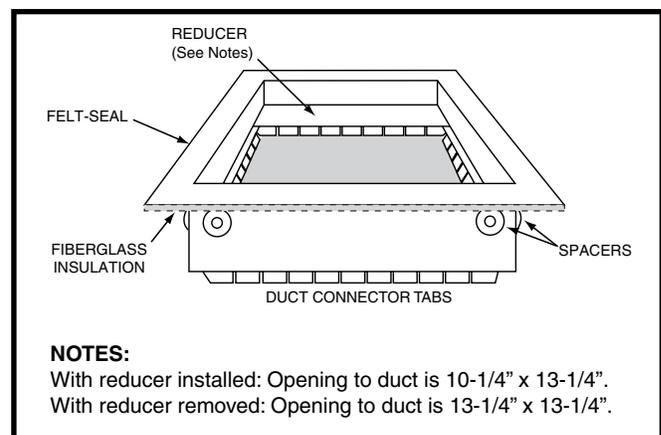

Figure 8. Duct Connector
- This furnace is certified for use on wood flooring or supports, but must not be installed directly on carpeting, tile, or any combustible material other than wood flooring. **NOTE:** The furnace may be installed on combustible flooring when installed on a manufacturer's approved duct connector (Figure 8). This factory supplied accessory must be installed in the floor cavity and attached to the supply air duct before the downflow furnace is installed.